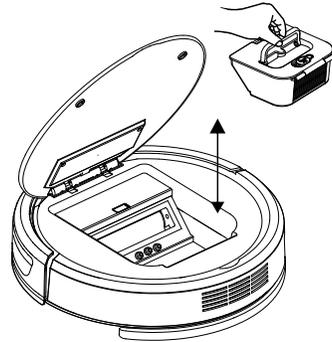

Fig.2
- 02. Take out the 2 in 1 dustbin & water tank. (Fig. 2).